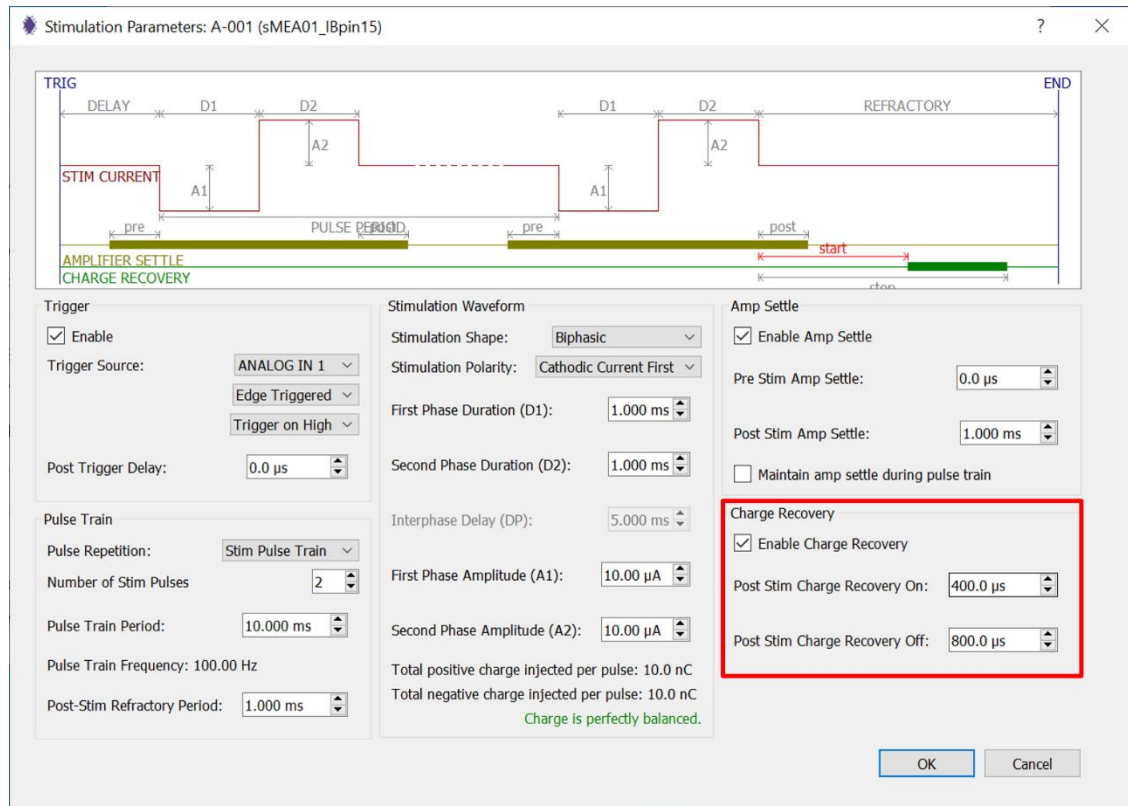

Fig. 81: Stimulation Parameter window with the “Charge Recovery” panel in red.
- 9) The “Charge Recovery” panel (**Fig. 81**)